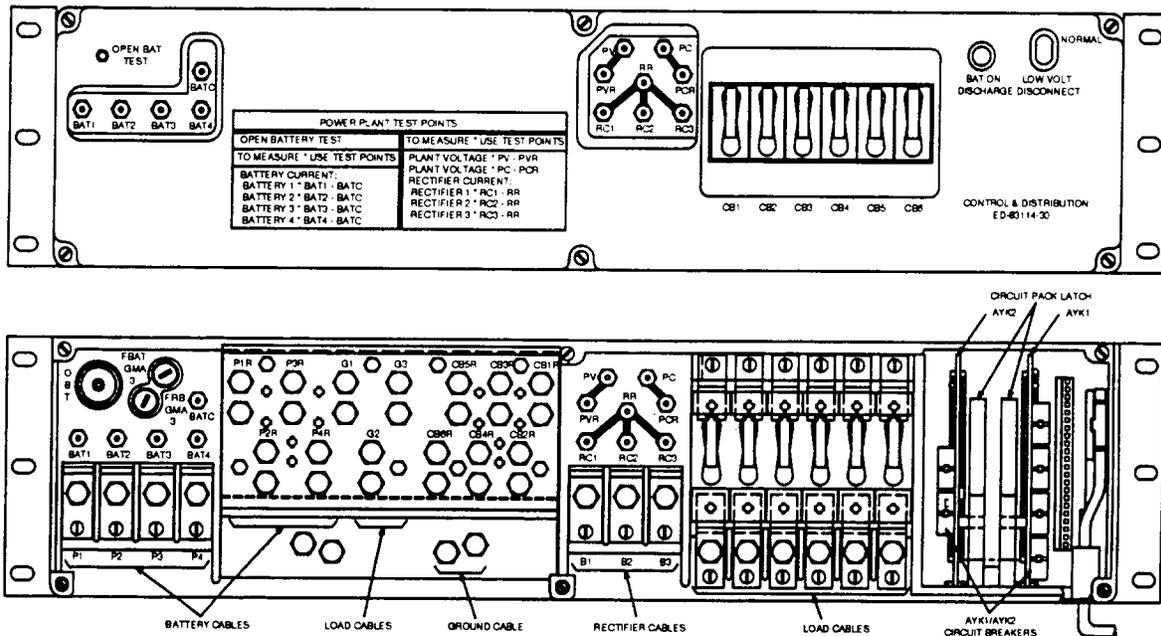

Figure 2 — Connections to Control and Distribution Panel
3. Remove cover from control and distribution panel (Figure 2).
4. Verify that rectifier cables are connected to **B1**, **B2**, and **B3** terminals (Figure 2). Verify that rectifier return ground cables are connected to **G1**, **G2**, and **G3** terminals (Figure 2).